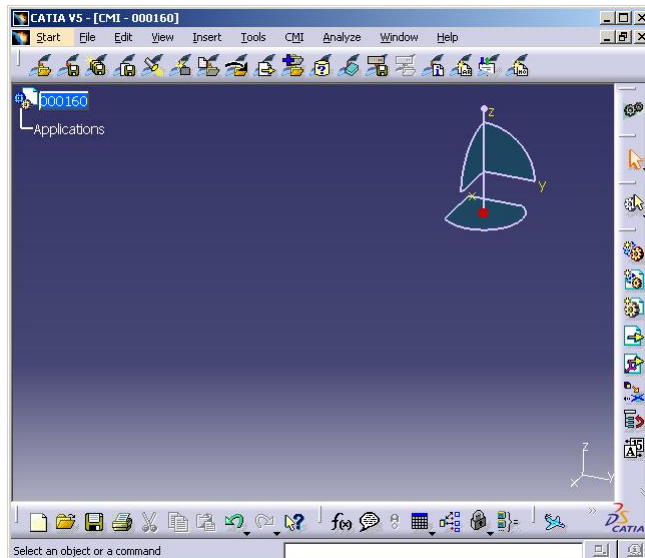
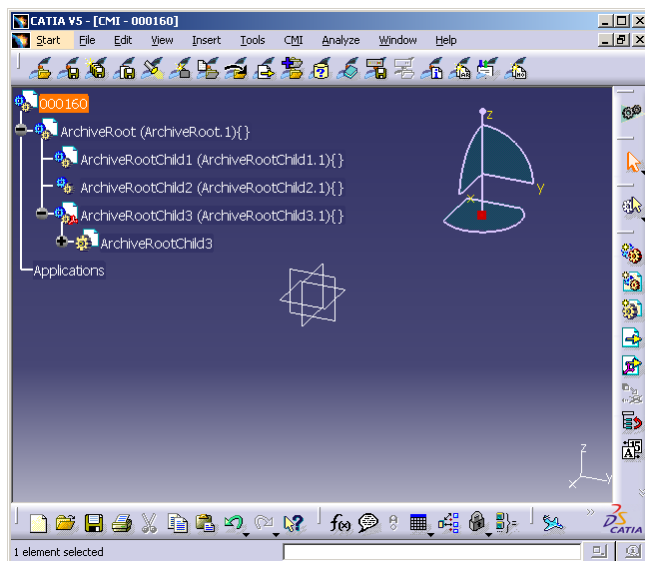

Figure 92: Loaded item 000160 in CATIA V5
Figure 93: CMIArchive root product with three children
Figure 92 shows the loaded product in CATIA V5. Now we add the structure which should be attached as CMIArchive as child items to the item 000160. In our example the three possible types are added under the root item (see Figure 93).
Select the root product which should be attached as CMIArchive (see “ArchiveRoot (ArchiveRoot.1)” in Figure 93). The parent object of the selected item must be loaded from CMI. The CMIArchive will be attached to an existing CMI structure by using the *Attach Archive* CMI toolbar button.